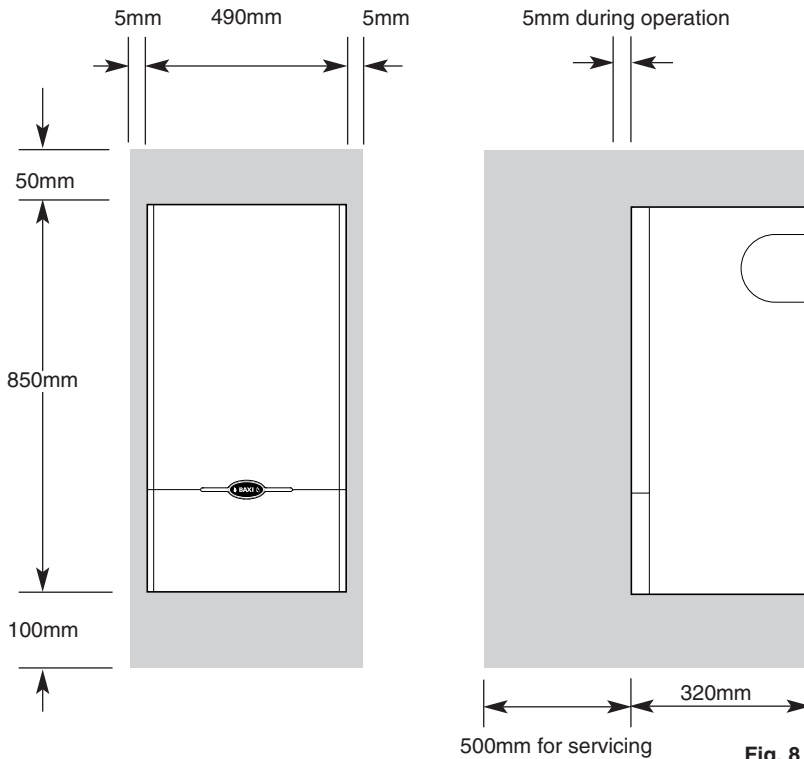

Fig. 8
5.2 Minimum Clearances (Fig. 8)